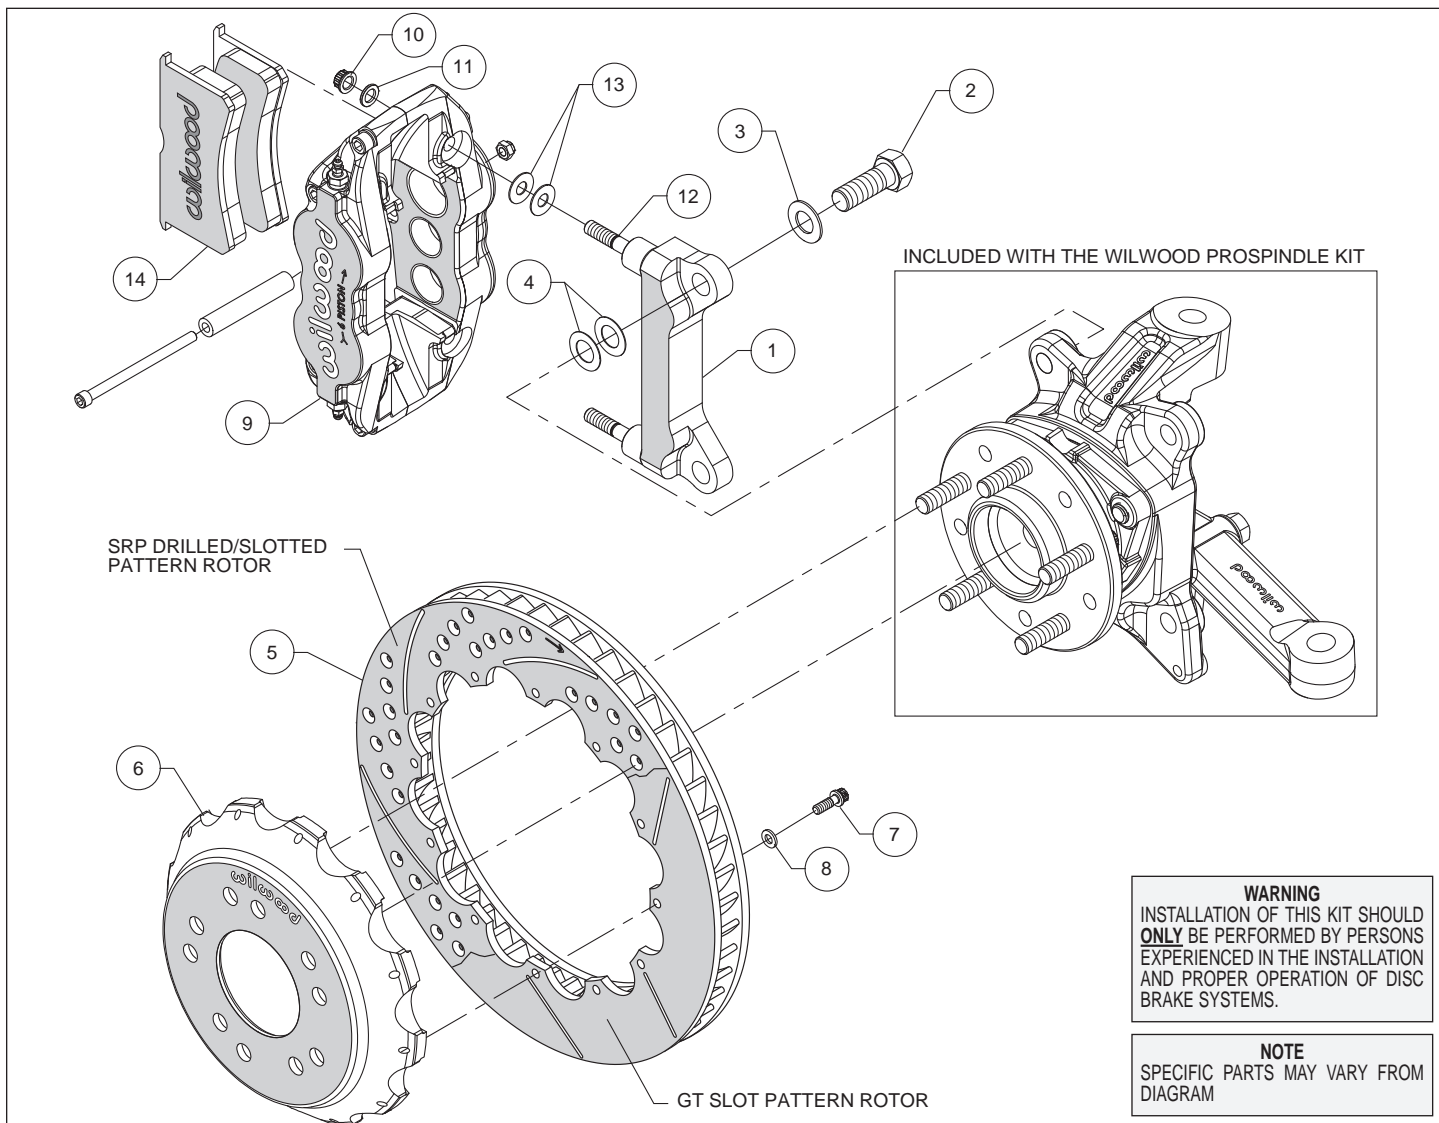
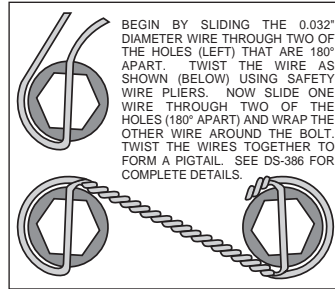

Figure 1. Typical Installation Configuration
Figure 3. Safety Wire Diagram
Assembly Instructions (numbers in parenthesis refer to the parts list and Figure 1 on the preceding pages):
- The caliper mount bracket (1) should initially be installed with clean, dry threads on the mounting bolts. Orient the bracket as shown in Figure 1 and Photo 1 and install using mount bolts (2) and washers (3). Initially place two .024" thick shims (4) on each bolt between the bracket and spindle, Figure 1. Temporarily tighten the mounting bolts. **NOTE:** The bracket must fit squarely against the mounting points on the spindle. Inspect for interference from casting irregularities, machining ridges, burrs, etc. Later, after the caliper alignment has been checked, the mount bolts will be secured using red Loctite® 271.
- Orient the rotor (5) and the hat (6) as shown in Figure 1 and Photo 2. Attach rotor to hat using bolts (7) and washers (8). Using an alternating sequence, apply red *Loctite*® 271 to the threads, and torque to 155 **in-lbs**. For an added measure of security, the bolts may be safety wired using standard 0.032 inch diameter stainless steel safety wire as shown in Figure 3. Please refer to Wilwood's data sheet DS-386 (available at www.wilwood.com/Pdf/DataSheets/ds386.pdf) for complete safety wire installation instructions.
- **NOTE:** *This kit contains distinct right and left hand calipers that must be mounted in a specific direction, as described below.* Lubricate the caliper mounting studs (12) with lightweight oil. Initially place two .035" thick shims (13) on each stud between the caliper and the bracket, as shown in Figure 1 and Photo 5. Mount the caliper (9) onto the bracket (1) using lock nuts (10) and washers (11), Figure 1. Ensure that the caliper is mounted so the largest pistons are at the rotor exit end of the caliper, in relation to the direction of rotor rotation. Temporarily tighten the lock nuts and view the rotor through the top opening of the caliper. The rotor should be centered in the caliper, Photo 6. If not, adjust by adding or subtracting shims (4) between the bracket and the spindle. Always use the same amount of shims on each of the two mounting bolts. Once the caliper alignment is correct, remove the bracket mounting bolts one at a time, apply red *Loctite*® 271 to the threads, and torque to 140 ft-lb.